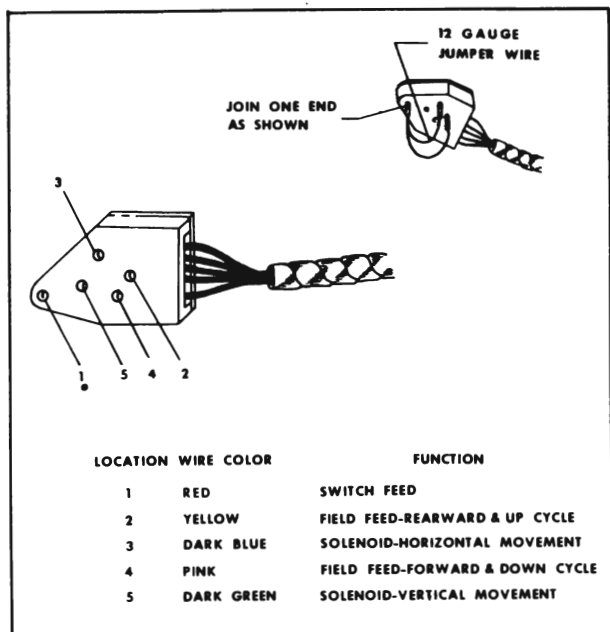

Figure 8-12—Four-Way Switch Block
a. Connect one light tester lead to feed terminal of switch block and ground other light tester lead to body metal (Figure 8-12).
In the following operations which specify the seat control switch to be actuated, a switch that has been checked for proper operation may be connected to the switch block. If a switch is not available, a three-way jumper wire can be made to perform the switch function. The method of making the jumper wire and the switch locations to be connected to obtain a specific movement of the seat are shown in Figure 8-12. If a jumper wire is